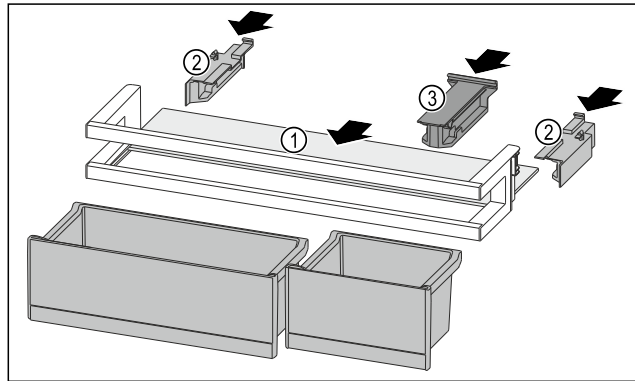

Fig. 263
- ▶ Push the shelf Fig. 263 (1) into the side recesses.
- ▶ Insert the side parts Fig. 263 (2).
- ▶ Insert the holding part Fig. 263 (3).